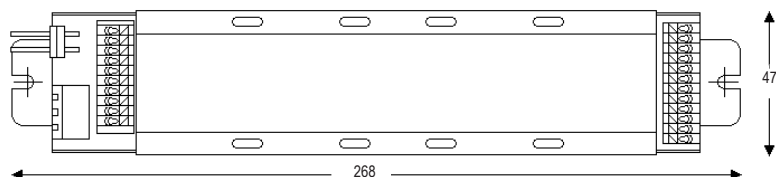

Figure 1: Nexus Inverter Pack Dimensions: Length 268mm, Width 47mm, Height 41mm
2. If all looks okay proceed with the installation, use a pencil to mark the position of the mounting screw holes for the inverter and the battery pack in the gear tray. Figure 1 describes the inverter pack dimensions.